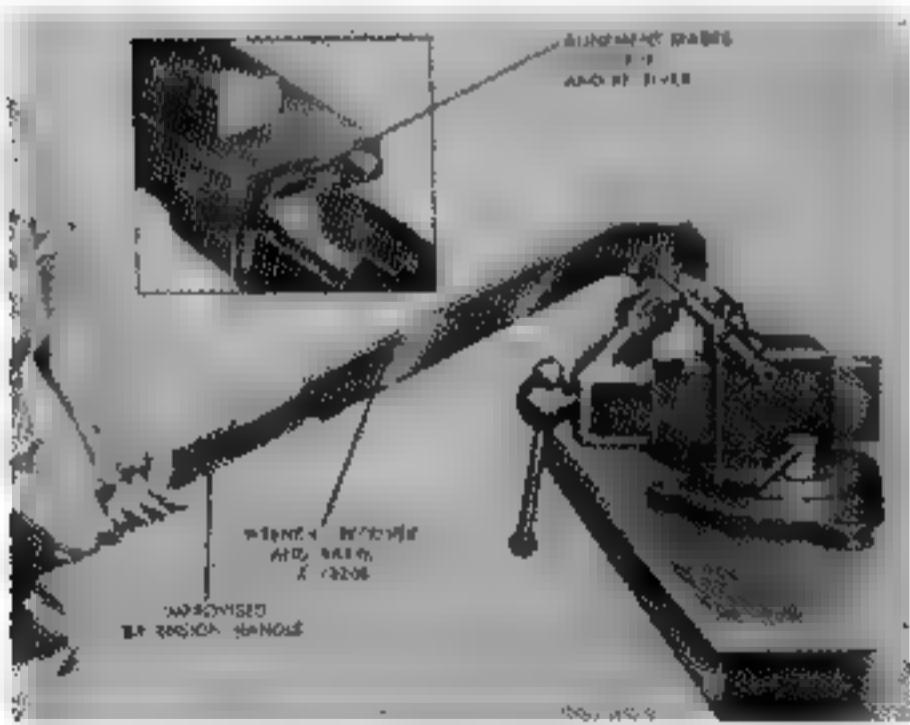
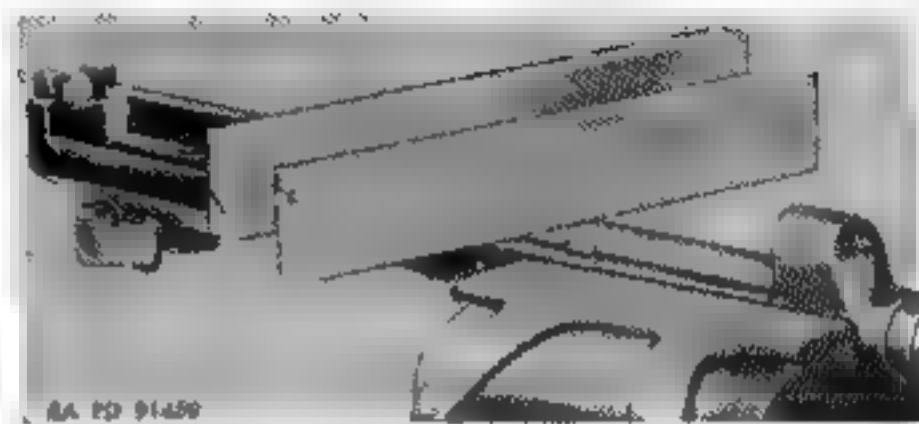

Figure 91. Assembling barrel to receiver.
Figure 92. Checking barrel and receiver alignment.
a. *Replacing Barrel.* Select proper barrel and receiver combination so that about 1/16-inch draw is obtained when assembled. Screw the receiver on the barrel with receiver and barrel wrench 7113308 draw up receiver until alignment marks on barrel and receiver (Fig. 91) coincide. Then determine that the flat surfaces on bottom of barrel and receiver are parallel. Check this by indicator or placing two bars, about 10 inches long, in position as illustrated in figure 92; and sight over the edges. When the two bars lie parallel, the barrel and receiver are in exact alignment for proper functioning.